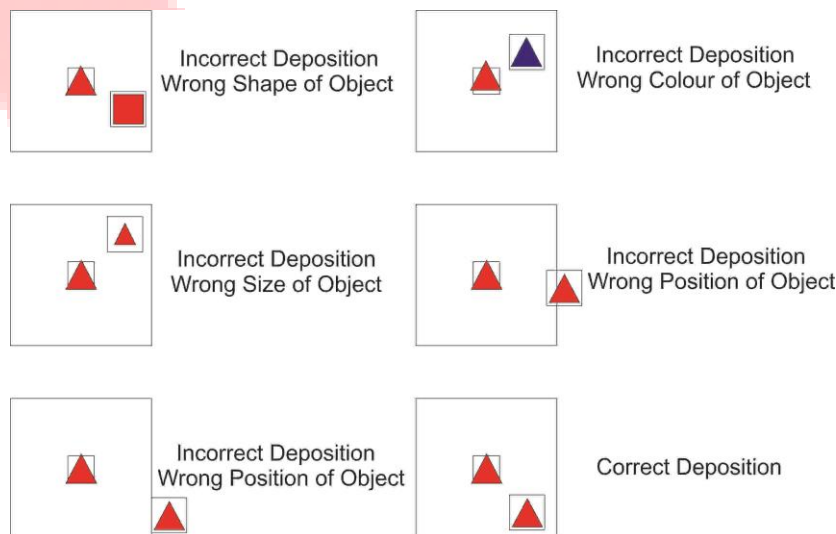

Figure 9: Examples - Correct and Incorrect Depositions
- b) The deposited Object should be completely inside the Cell. Figure 9 shows some correct and incorrect Object depositions.